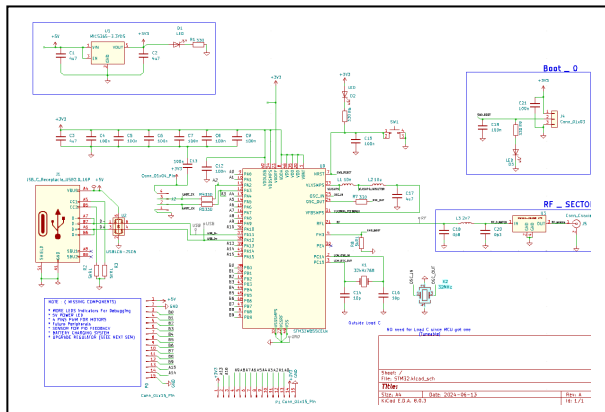

Figure IV-1 Overall Schematic design
- Figure IV-1 Overall Schematic design